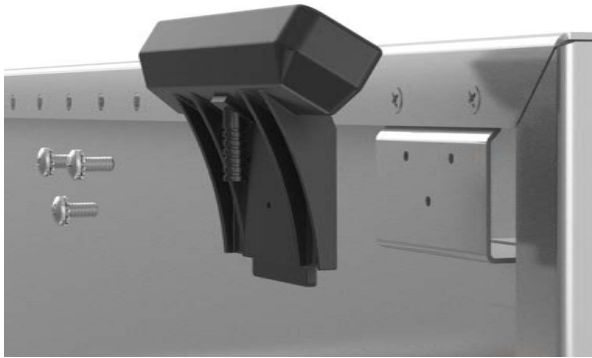

Fig. 25: Attach New Memory Control Pad
2. Insert three 1/4" screws into the holes of the Memory Control Pad, attaching the Memory Control Pad to the table mounting plate (Fig. 25).